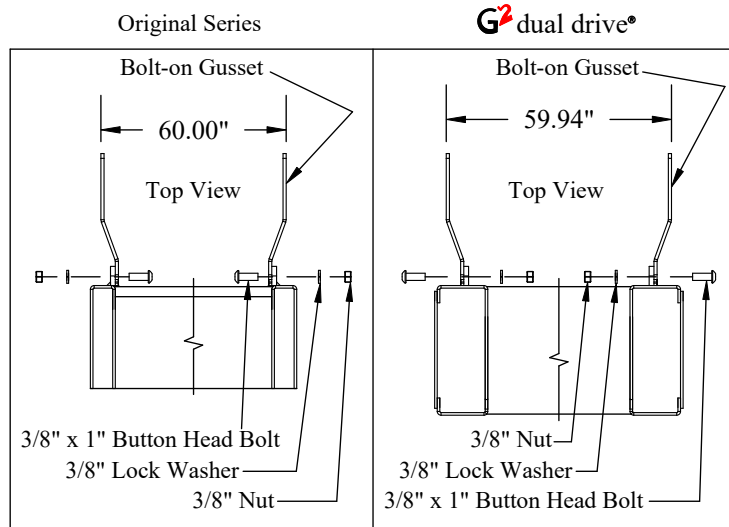

Figure 4: Top view of liftgate bolt-on gussets.
1. **Install** the eight (8) 3/8" x 1" button head bolts, lock washers, and nuts in the position shown for your configuration (Figure 4).